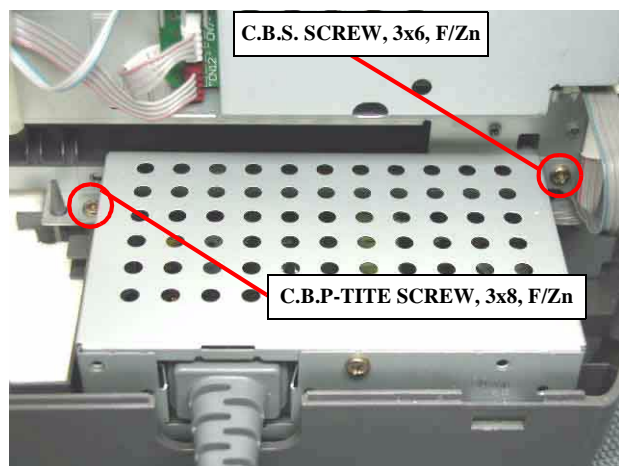

Figure 4-24. PSB/PSE unit removal
- Fasten two screws (C.B.P-TITE SCREW 3x8 F/Zn, C.B.S. SCREW 3x6 F/Zn) for securing the PSB/PSE unit to the Lower housing. (Refer to Figure 4-24)